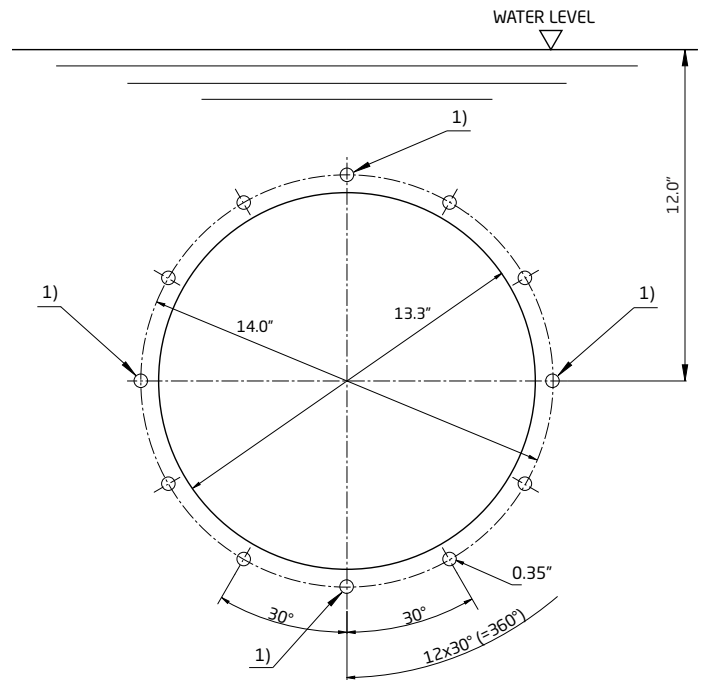
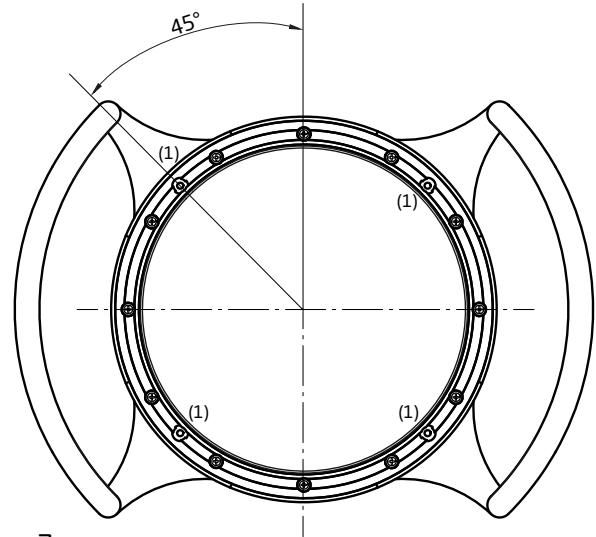
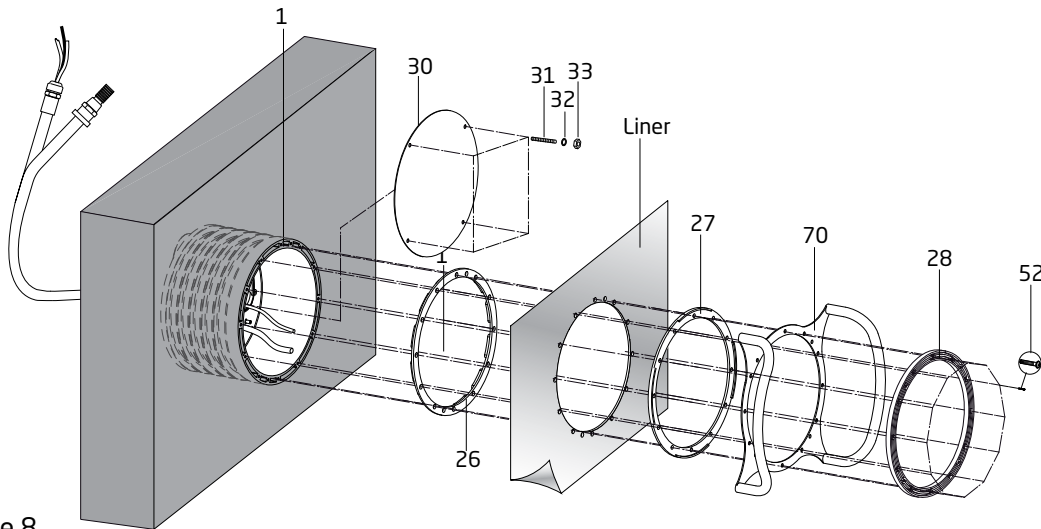
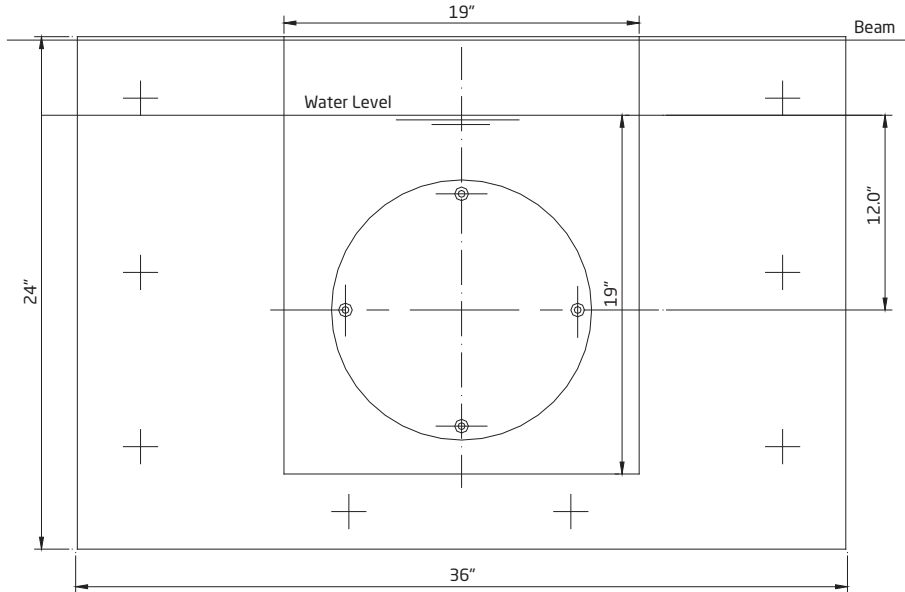

Figure 5
Figure 7
Figure 8
Figure 10
- Create formwork for the jet housing using Figures 5 & 6.
- Drill the four M8 holes marked (1) in Figure 5 in the formwork for the inner pool wall. Cut a 14.5" hole in the formwork for the outer pool wall. **CAUTION:** The center of the jet housing **MUST BE** mounted 12" **BELOW** the water line as shown in Figures 5 & 6
- Install the four (4) M8 x 80mm gunite cover studs (part# 31) in the front of the jet housing. They should be in the same position as the holes marked (1) in Figure 5. Slide the gunite cover (part# 30) over the studs. Tape the edge of the gunite around the entire jet housing to keep concrete out of threaded inserts and out of the jet housing.
Align the stainless steel handles (part #70) and clamping ring (part #28) as shown in Figure 7. Use the twelve (12) M8 x 30 clamping ring screws (part #52) to attach the clamping ring and handles to the jet housing.
Use the provided mounting template (*small scale version of template shown in Figure 5*) to mark and drill the holes through the liner (twelve (12) M8 clamping ring screw holes and 13.3" center hole). Insert the gasket with knobs in the front of the jet housing (part #26). Install the liner with the holes aligned to the jet housing. Align the clamping ring (part #28) and stainless steel handles (part #70) as shown in Figure 7. Place the clamping ring gasket (part #27) behind the stainless steel handles and install using the twelve (12) M8 x 30 clamping ring screws (part #52). (See Figure 8)
- One (1) piece of plywood 2' x 3' x 1/4"
- Eight (8) Lag screws 1/4" x 1-1/2" (minimum)
- Eight (8) Plastic lag shield anchors
4. Taking the 2' x 3' x 1/4" plywood, set its top edge even to the cap of the pool wall. In some cases a larger piece of plywood maybe needed to cover the hole completely. If plywood covers the hole completely, mark the water line on the plywood. From this line, layout and drill holes in plywood for the four (4) M8 x 80 gunite cover studs (part #31) and the eight (8) 1/4" lag screws. (*See Figure 10*)
5. Insert the four (4) M8 x 80 gunite cover studs (part #31) in the jet housing; one on each end of the vertical center line and one on each side on the horizontal center line insert gasket with knobs (part #26). Place gunite cover on studs covering the inside of the jet housing. Next place plywood on the studs and secure to the jet housing with four (4) M8 stud washers (part #32) and four (4) M8 gunite cover stud nuts (part #33). The discharge connection should be located directly **ABOVE** the suction connection.
6. Now place this assembly into position in the pool wall and align the water line marks. With a level on the two (2) horizontal studs, level the assembly and mark the eight (8) holes for the 1/4" lag shield anchors. Remove assembly and drill holes for lag anchors. Install lag shield anchors. Reposition the assembly and secure it to the lag shield anchors with 1/4" lag screws. It is best to check with a level before tightening the lags down. Back fill and form the outside of pool wall.
Align the stainless steel handles (part #70) and the clamping ring (part #28) as shown in Figure 7. Using the twelve (12) M8 x 30 clamping ring screws (part #52), attach the clamping ring and handles to the jet housing.
Use the template in Figure 5 to mark and drill the holes through the liner (twelve (12) M8 holes and center 14" hole). Insert the gasket with knobs (part #26) in the front of the jet housing. Install the liner with the holes aligned with the jet housing. Align the clamping ring (part #28) and stainless steel handles (part #70) as shown in Figure 7. Place the clamping ring gasket (part #27) behind the stainless steel handles and install using the twelve (12) M8 x 30 clamping ring screws. (*See Figure 8*)
7. Align the clamping ring (part #28) over the stainless steel handles (part #70) as shown in Figure 7.
8. Install the twelve (12) M8 x 30 clamping ring screws (part #52).